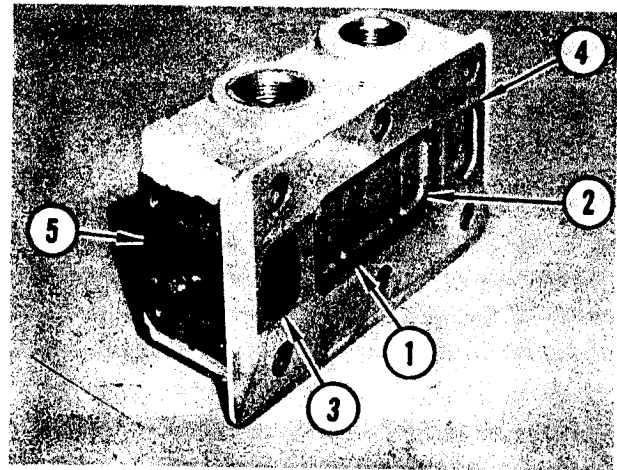

FIGURE 16. VALVE GROUP
2. Install lathe cut washers in separator plate as shown in Figure 16. Install the large lathe cut washer (1) in separator plate (4). Install washer retainer (2). Install small lathe cut washer (3). Make certain washers fit flat and snug against separator plate surface. Assemble separator plate to valve body (5) as shown.